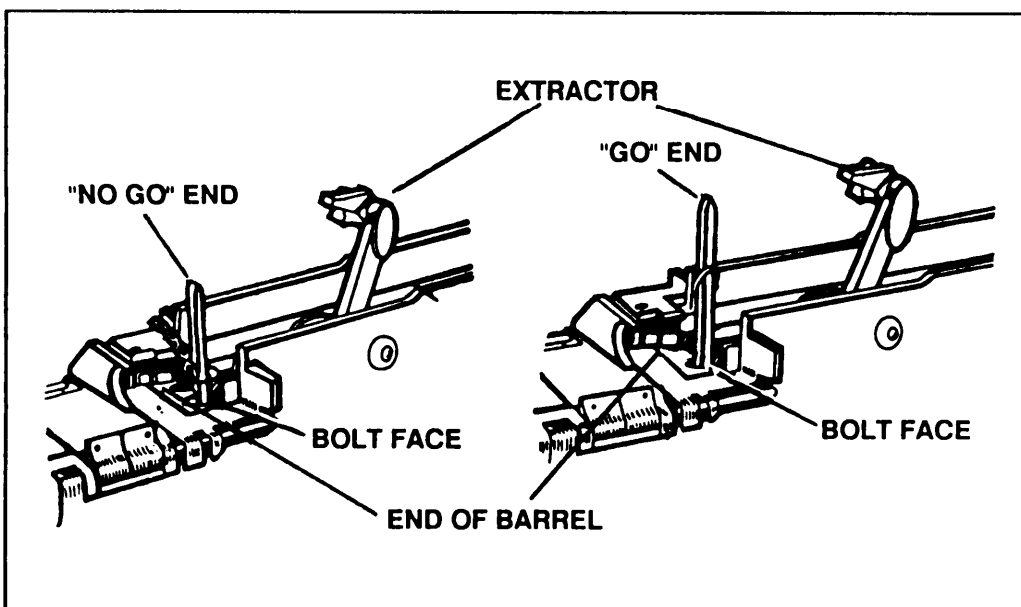

Figure 3-22. Using the gauge.
(7) Raise the extractor out of the way to clear the top of the T-slot and try both ends of the go/no-go gauge as shown in Figure 3-22.